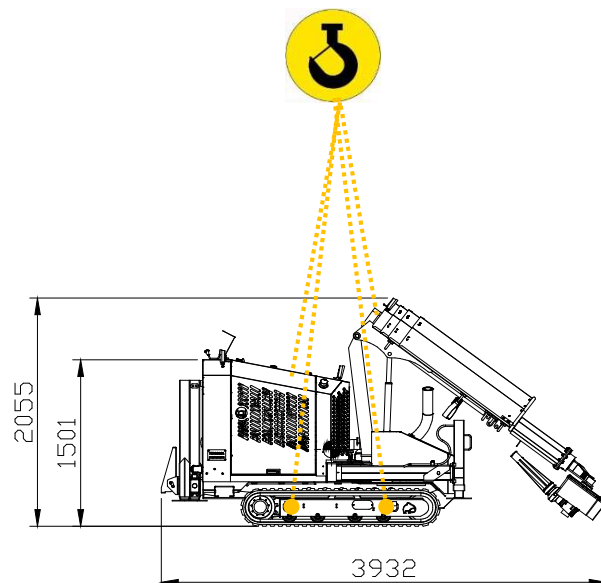

Fig. 5.2-2 - Machine lifting configuration
- Make sure that the parts of the machine are in the transport position (Fig. 5.2-2), and with the driving footboard raised;
The machine can only be lifted if its parts are positioned as intended in the transport configuration (Fig. 5.2-2):